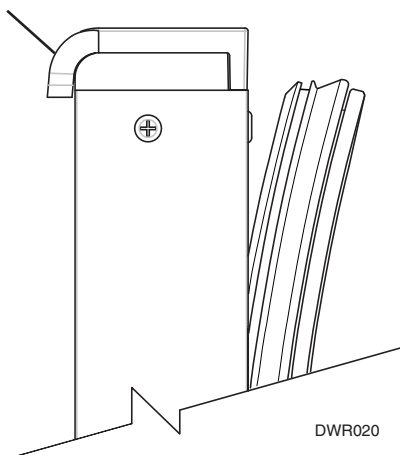

Figure 14
1. Open drawer. Pull drawer gasket out of groove (top edge of drawer only). Start in the middle and pull outward, moving toward the edge (Figure 14). This may take some force, be careful.